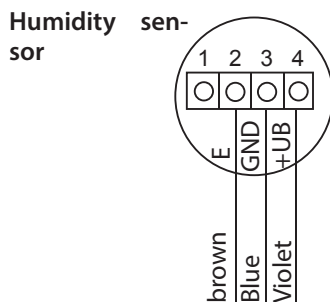

Figure 12
2. Please see Fig. 12 for the connection sequence of the wires.